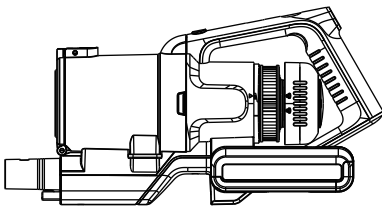

Fig. 19
7. To clean or replace the post-motor filter, turn the cover anticlockwise and lift off the cover(fig. 19), remove the filter(Fig.20), wash and dry the filter in accordance with step 4.
2. Remove the floor head from the cleaner (fig. 19).